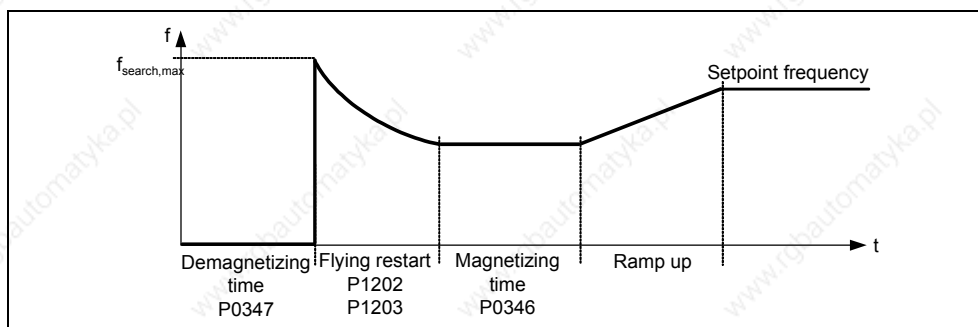

Fig. 3-82 Flying restart
- a) Depending on parameter P1200, after the de-magnetizing time has expired P0347, flying restart is started with the maximum search frequency $f_{\text{search,max}}$ (refer to Fig. 3-82).
The search frequency is reduced, as a function of the DC link current with the search rate which is calculated from parameter P1203. In so doing, the parameterizable search current P1202 is impressed. If the search frequency is close to the rotor frequency, the DC link current suddenly changes because the flux in the motor establishes itself. Once this state has been reached, the search frequency is kept constant and the output voltage is changed to the voltage value of the V/f characteristic with the magnetizing time P0346 (refer to Fig. 3-82).